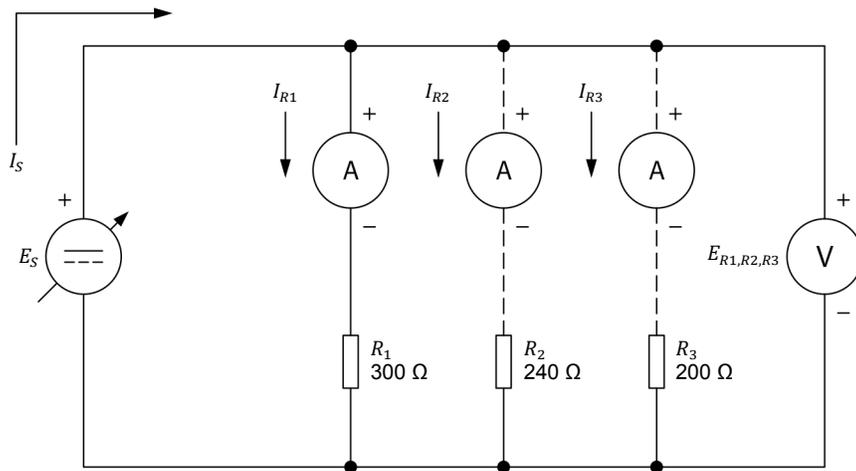

Figure 31. Circuit made of resistors connected in parallel.
13. Set up the circuit shown in Figure 31. To obtain the resistor arrangement of Figure 31, make the necessary connections and switch settings on the **Resistive Load** module.
Set a multimeter to measure dc current and connect it in series with resistor R_1 , as Figure 31 shows.
Set a multimeter to measure dc voltage and connect it across the three resistors, as Figure 31 shows.
The ammeter symbol is dashed for I_{R2} and I_{R3} in Figure 31. This occurs because the ammeter (I) will be moved in the other circuit branches to measure currents I_{R2} and I_{R3} . Close the branches of resistors R_2 and R_3 for now, using a connection lead, in order to have the three resistors connected in parallel.
14. Calculate the equivalent resistance $R_{Eq.}$ of the parallel resistors in Figure 31. Then, calculate the source current I_S based on the equivalent resistance $R_{Eq.}$ and the source voltage E_S of 50 V.
18. Turn the internal power source off. Disconnect the ammeter from resistor R_1 and connect it in series with resistor R_2 , as Figure 31 shows. Make sure to keep the three resistors connected in parallel.
19. Turn the internal power source off. Disconnect the ammeter from resistor R_2 and connect it in series with resistor R_3 , as Figure 31 shows. Make sure to keep the three resistors connected in parallel.
4. Refer to Figure 31. If one of the resistors is removed from the circuit, what happens to the source current I_S and the source voltage E_S ?